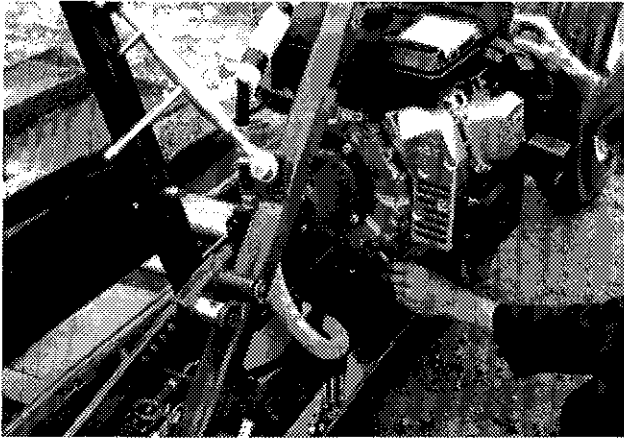

Figure 12
- 1) Please note, for shipment, the engine is temporarily mounted in the transport position in order not to exceed the legal width allowed on the road. Consequently, it must be re-positioned properly before starting.(Fig.12)